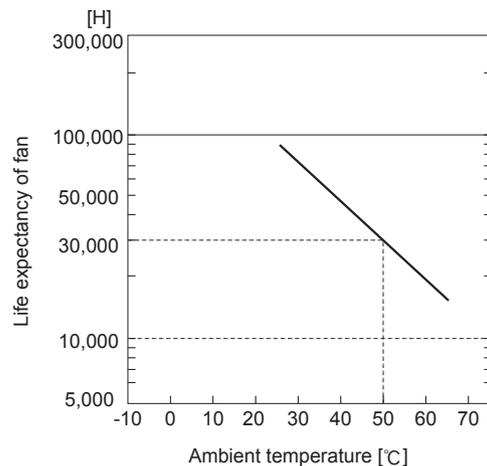

Fig.4.1 Life expectancy of fan (R(t)=90%)
■ Regular exchange is necessary for the fan, because the life expectancy (R(t)=90%) of the fan depending on the use condition is shown in Fig.4.1.